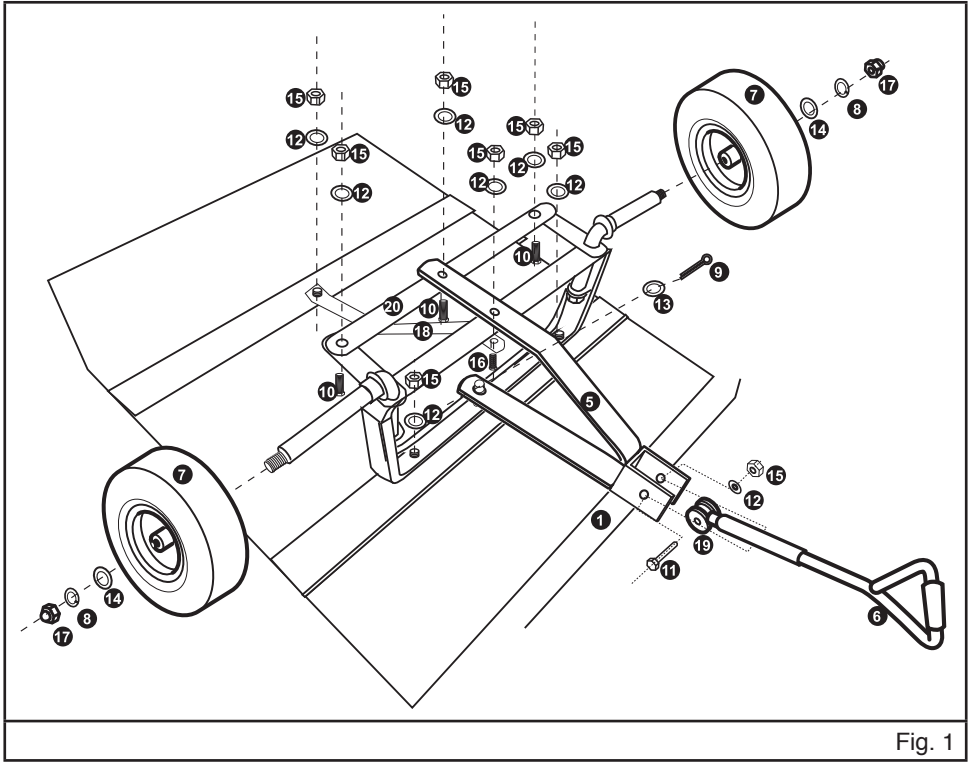

Fig. 1
2. Align the boltholes of the front axle support (#3) with the bolts on the bed, and secure it with hex nuts (#15) and washers (#12). (Fig. 1) All nuts and bolts should be hand tightened only until the entire unit is assembled.